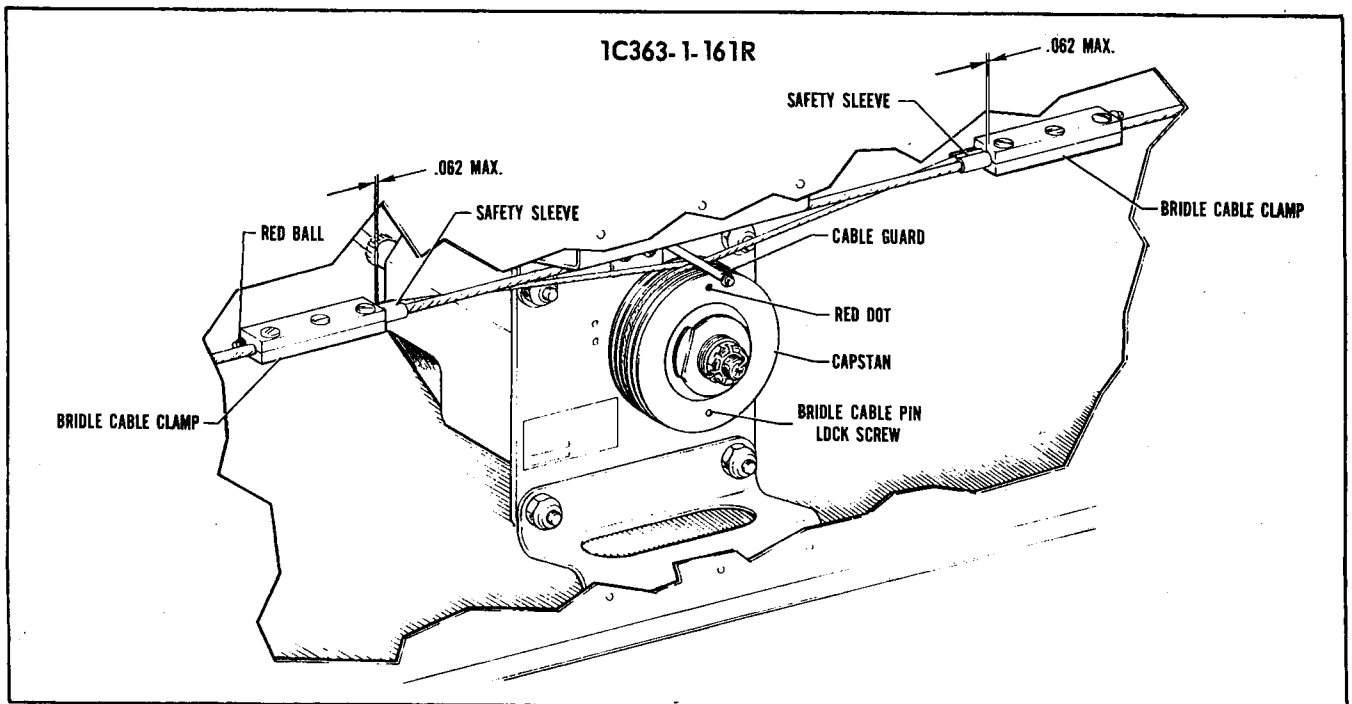

Figure 3-25. Roll Servo Installation, PA-24-260 and PA-39
3-39. INSTALLATION OF ROLL SERVO. (PA-24-260 and PA-39.) (Refer to Figure 3-25.)
e. REFER TO FIGURE 3-13 AND CHECK THAT THE CONTROL CABLE TENSION (Z) IS ADJUSTED TO 26 ± 5 POUNDS PRIOR TO ATTACHING THE BRIDLE CABLE CLAMPS. Ascertain area on cable where clamp attaches is clean, dry and free of all lubricants and anti-corrosive additives. Attach the bridle cable to the aileron balance cable. The bridle cable is drawn to the balance cable and attached with clamps at the previously painted locations on the balance cable. The end of the bridle cable with the red ball extends toward the left side of the airplane. (Refer to Figure 3-25.) (Should the balance cable not be painted, position the control wheel in neutral and the bridle cable pin, installed in the capstan, at 180 degrees from the balance cable.) Adjust the bridle cable clamps so the bridle cable tension (Y) is equal to the control cable tension between the bridle cable clamps (X) as shown in Figure 3-13 without increasing the control cable tension from the bridle cable clamps outward. At no time shall the bridle cable tension be greater than the control cable tension between the clamps. Adjusting the bridle cable tension will lower the control cable tension between the two bridle cable clamps. Torque the bridle cable clamp screws to 15 ± 1 inch-pounds.